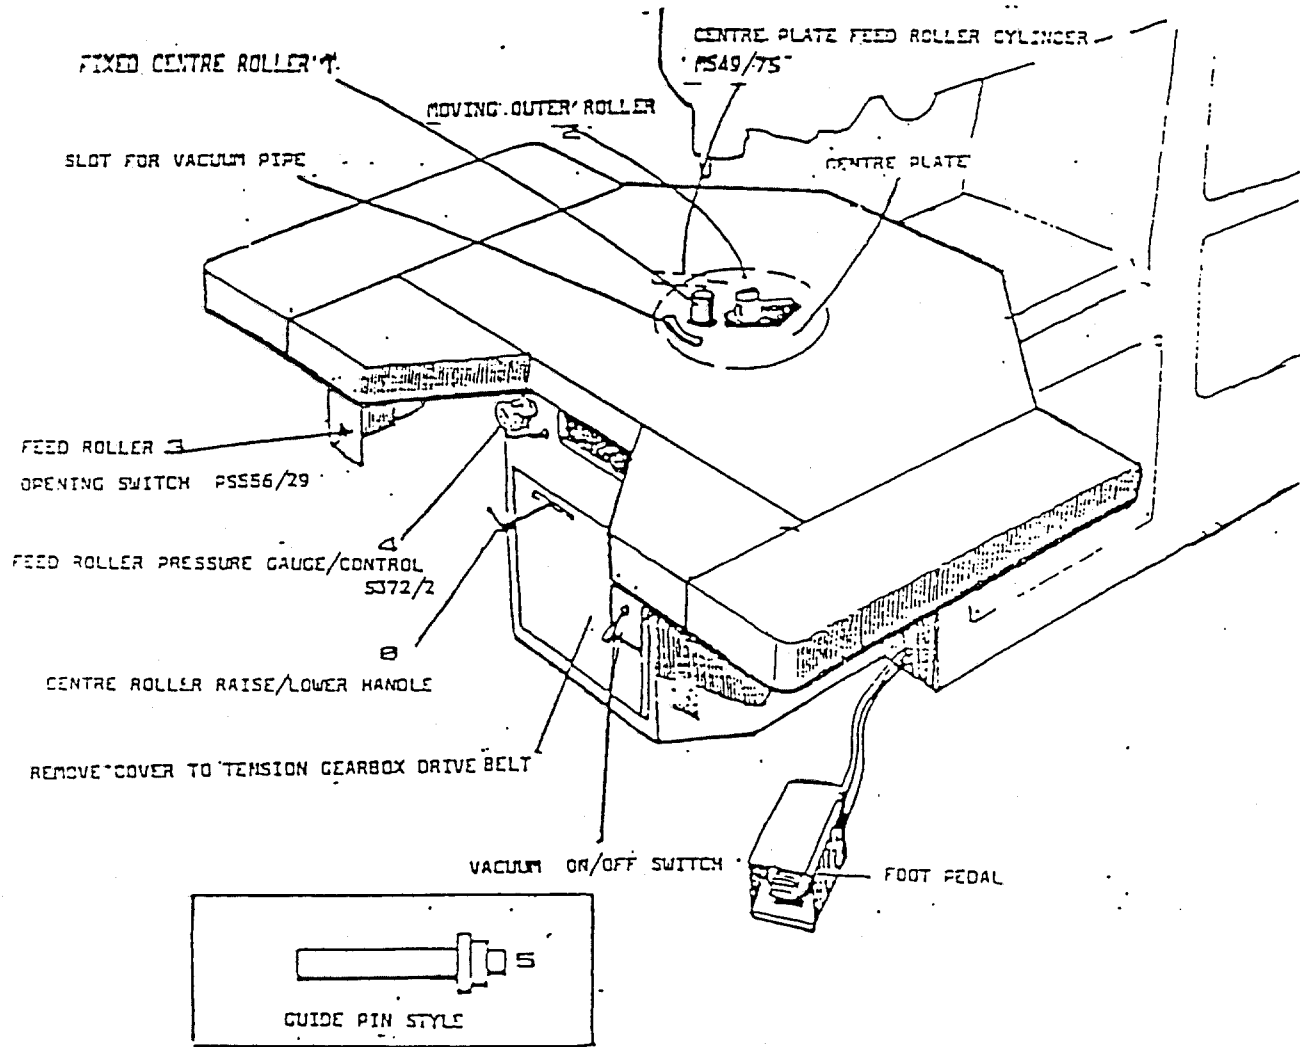

FIG. 13 LAYOUT OF AUTOMATIC FEED COPY TABLE UX/1
4.9 AUTOMATIC FEED COPY TABLE ATTACHMENT (See Fig. 13)